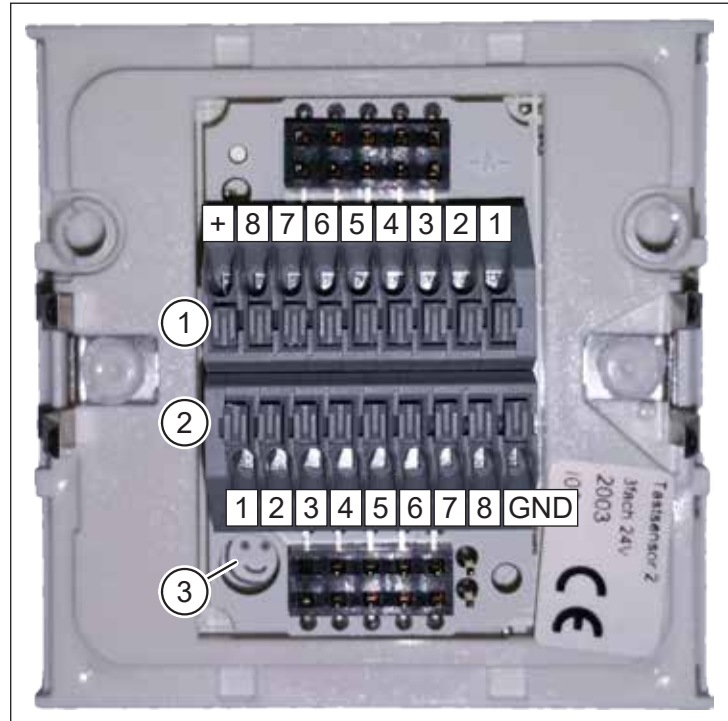
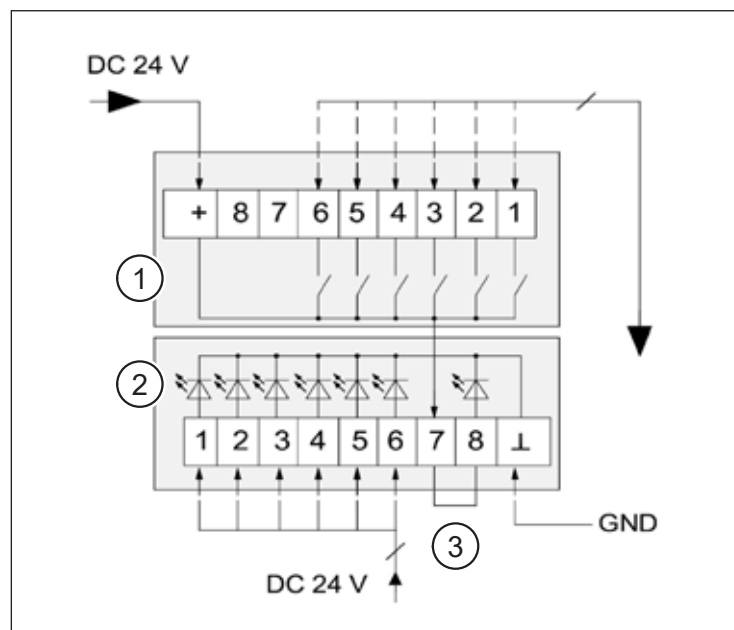

Fig. 28: InControl pushbutton sensor with terminal assignment
Fig. 29: InControl pushbutton sensor connection diagram
Item in Fig. 28	Designation
Use the smiley (item 3 in Fig. 28) as an orientation guide. It is only in this position that the connections on the terminal blocks agree with the connections identified in the connection diagram (Fig. 29).
Item in Fig. 29	Designation
The InControl pushbutton sensor has a backlight that can be activated if required. Place a bridge (item 3 in Fig. 29) across terminals 7 and 8 of the terminal block for LEDs to supply 24 V DC to the backlight.